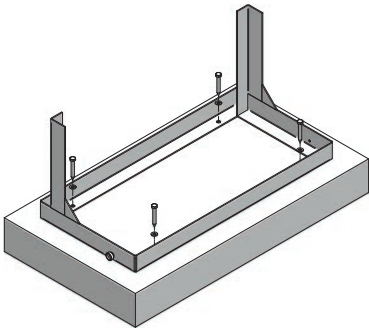

Fig. 10: Fixing the cabinet
5. Return the device and screw it to the floor on all anchor points (see Fig. 10).
6. Return the cover (6).